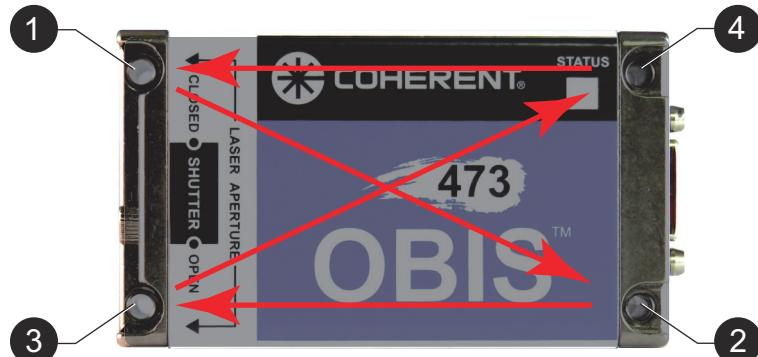

Figure 4-20. Tightening Pattern for Mounting the OBIS Laser
8. Tighten the screws in a diagonal pattern shown in Figure 4-20 for best results in pointing stability. Torque the mounting screws to 0.25 N·m (35.4 oz·in.) in the following sequence: 1-2-3-4. Use the same diagonal pattern for the last torque setting of 1 N·m (141.6 oz·in.).